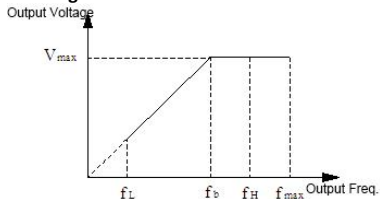

Figure F0-1 Voltage and Frequency
frequency for output, and the reference of acc./dec. time setting, as f_{max} showed in the following figure; basic running frequency is the minimum frequency when output highest voltage, usually the rated frequency of motor, as f_b showed in the following figure; the maximum output voltage V_{max} is the output voltage when output basic running frequency, usually rated voltage of the motor, as V_{max} showed in the following figure; f_H , f_L are defined as upper limit frequency and lower limit frequency separately, as showed in figure F0-1:
4. The maximum output frequency, upper limit frequency and lower limit frequency have relations as showed in figure F0-1, please notice the numerical value order when setting.